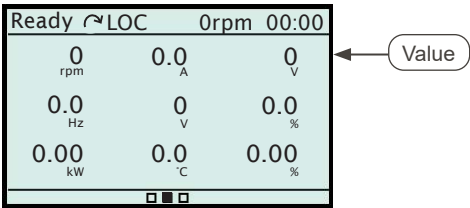

Figure 4.13: View in Slot
- **Slot:** the HMI screen is divided into nine parts called Slots and allows viewing reading variables in the format **value**. Figure 4.13 on page 70 shows a view example.